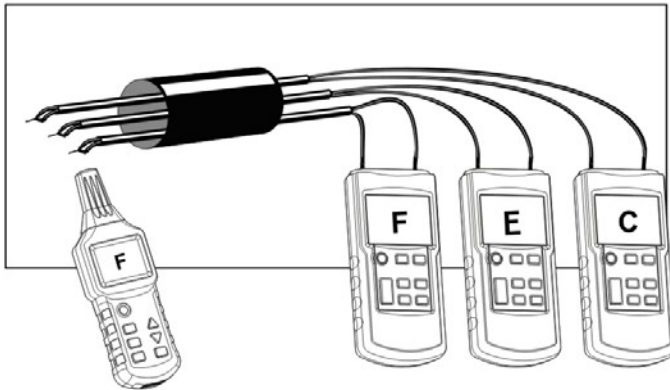

Fig. 22
1. Connect the transmitter as shown in Fig. 22.